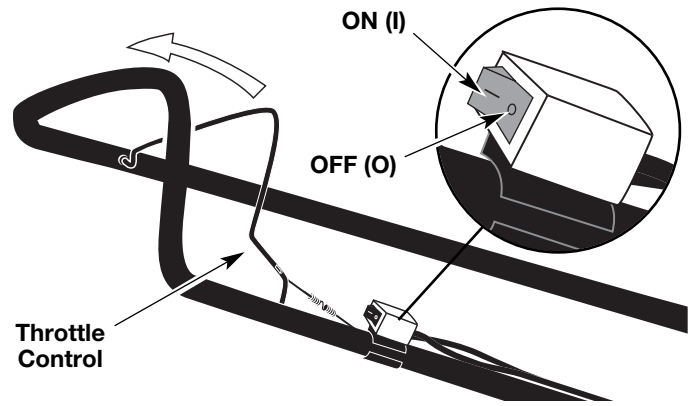

Fig. 10
3. Make sure the On/Off Stop Control in the **ON [I]** position (Fig. 10).